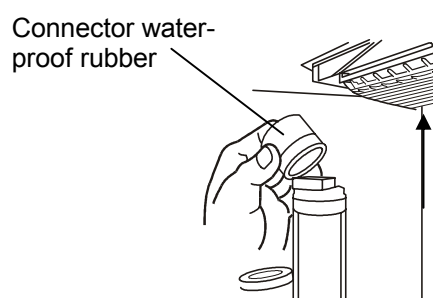

Fig. 2
5. Take out the lamp and remove the connector water-proof rubber at both ends. As shown in Fig. 2, shift the rubber by rolling it.